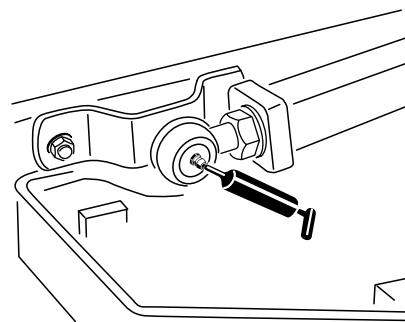

Figure 72
- 2 lift-arm ball joints (Figure 72)